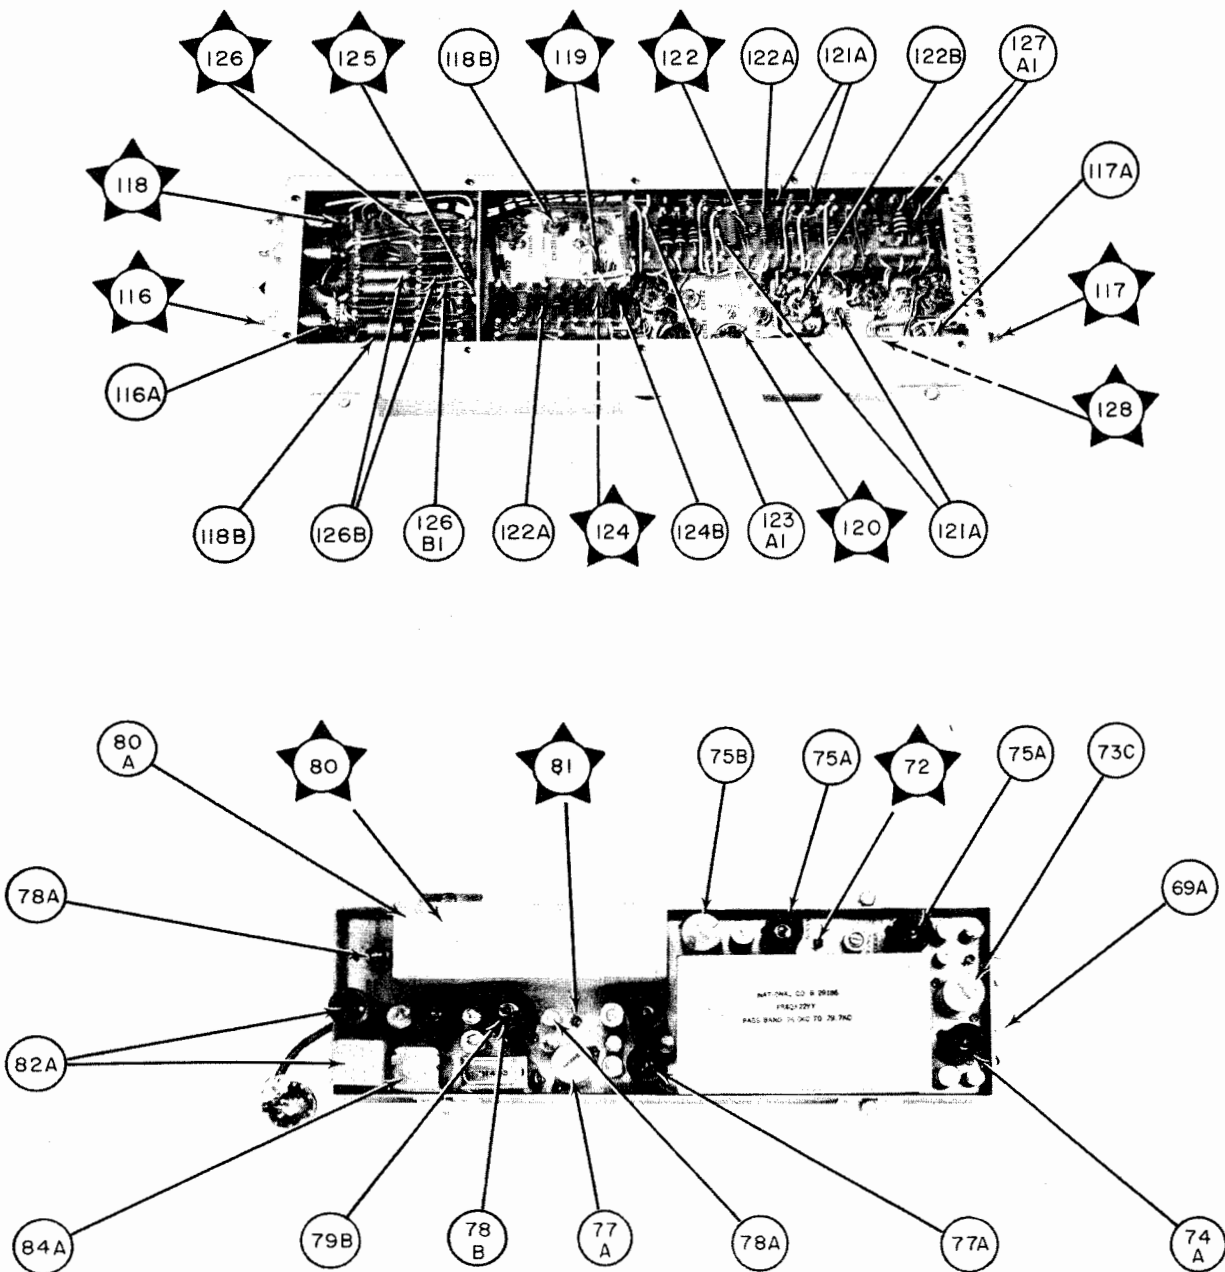

Figure 5-76. LSB Detector-Amplifier, Location of Test Points
b. ACCESS.—The LSB detector-amplifier is located in the lower demodulator deck. Raise the upper deck for access to the top; tilt the whole drawer for access to the bottom. Figure 5-75 shows the location of parts and figure 5-76 the location of test points.
- (1) Seating of tubes V1101 through V1109 in their sockets
- (2) Cable connections at J1101, J1102, J1103, and TB1101
- (3) Soldered connections at chassis feed-through terminals
- (4) Mechanical operation of panel controls A.F. LEVEL LINE A, LOWER SILENCER, A.G.C. LOWER ON/S.S.B./OFF, A.G.C. LOWER SLOW/FAST, and RECEPTION A.M./S.S.B.